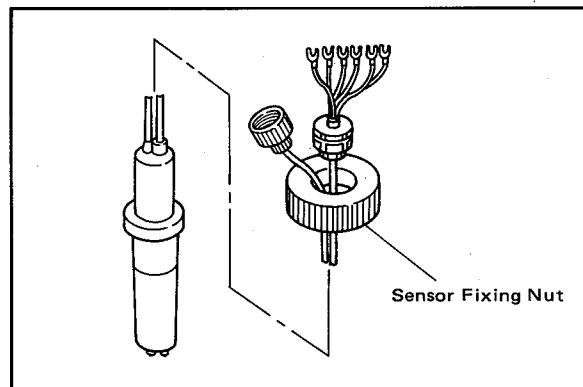

Figure 2-9. Preparation for Sensor Cable Connection.
- (1) Connect the sensor cable to the associated equipment. First, remove the sensor fixing nut and pass the sensor cable through the nut (see Figure 2-9). Correctly connect as per Section 2-3.
- (2) Mount the liquid junction on the sensor body. Peel off the seal covering the liquid junction mounting hole in the sensor body. Screw the liquid junction softly into the hole by turning it for two or three turns.